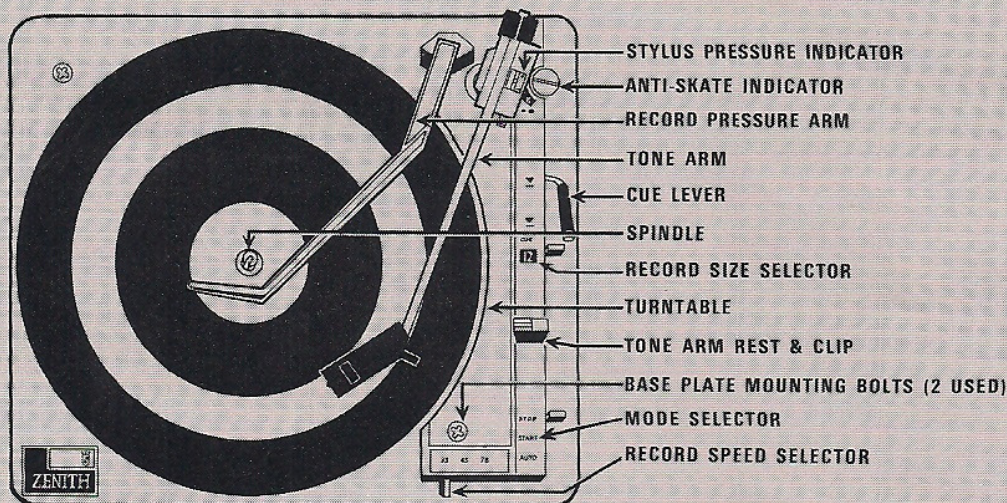

Figure 4
Remove all packing materials. Turn the base plate mounting bolts on record changer (See Fig. 4) clockwise until they are even with the base plate. Remove the cardboard strips from either side of record changer, if present.
**For playing several records in sequence (Fig. 4)**, Be sure any tape used to secure the Tone Arm is removed and the Base Plate Mounting Bolts are turned fully clockwise before placing the changer in operation.
**For playing single records manually – (Fig. 4).** Be sure any tape used to secure the Tone Arm is removed and the Base Plate Mounting Bolts are turned fully clockwise before placing the Record Changer in operation.